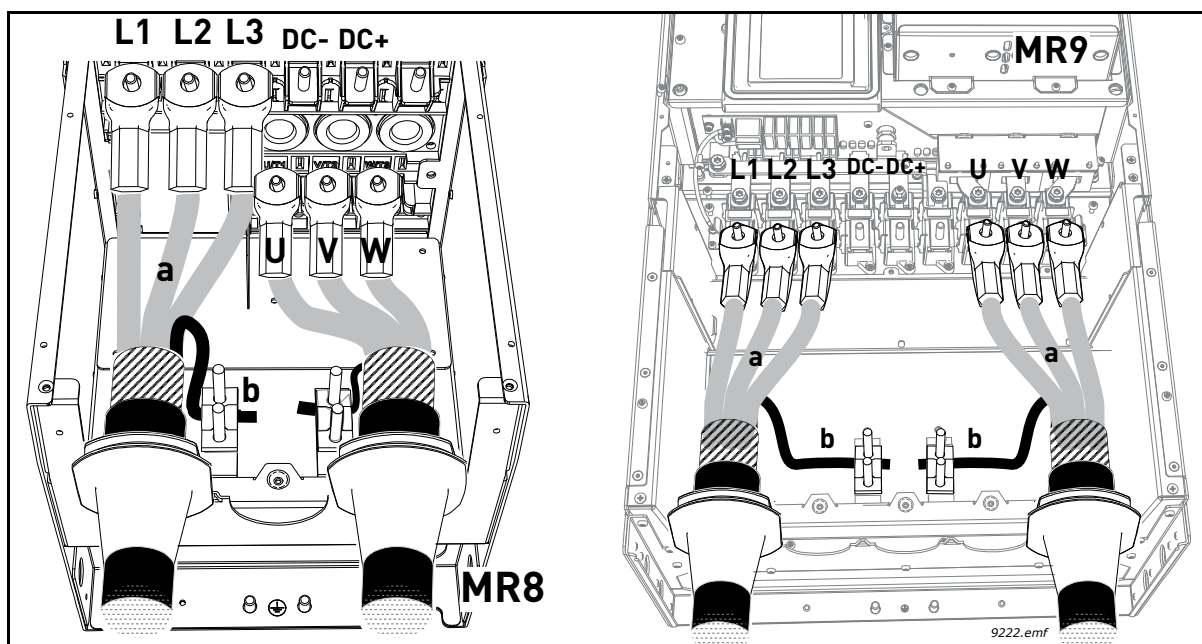

Figure 42.
- Form the rest of the cable shield of all cables into “pigtails” and make a grounding connection as shown in Figure 42 (b) using the clamp from the *Accessories bag*.